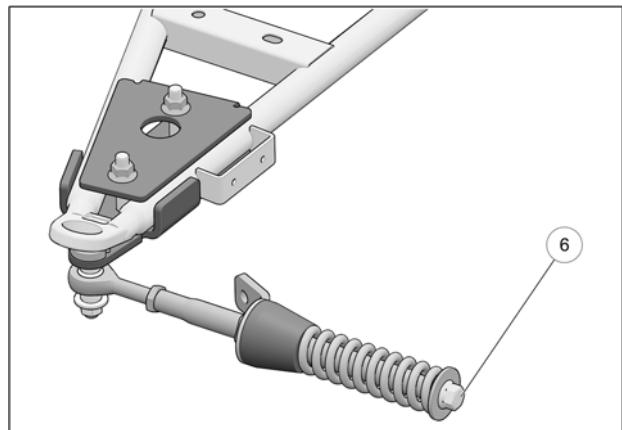

Fig. 19
10. Verify that spring assembly bolt (**6**) is tightened to the recommended torque specification: 75 N·m [55 lb·ft]. Refer to Fig. 19
10. Verifier que le boulon du ressort (6) est serré au couple recommandé : 75 N·m [55 lb·pi]. Voir la Fig. 19